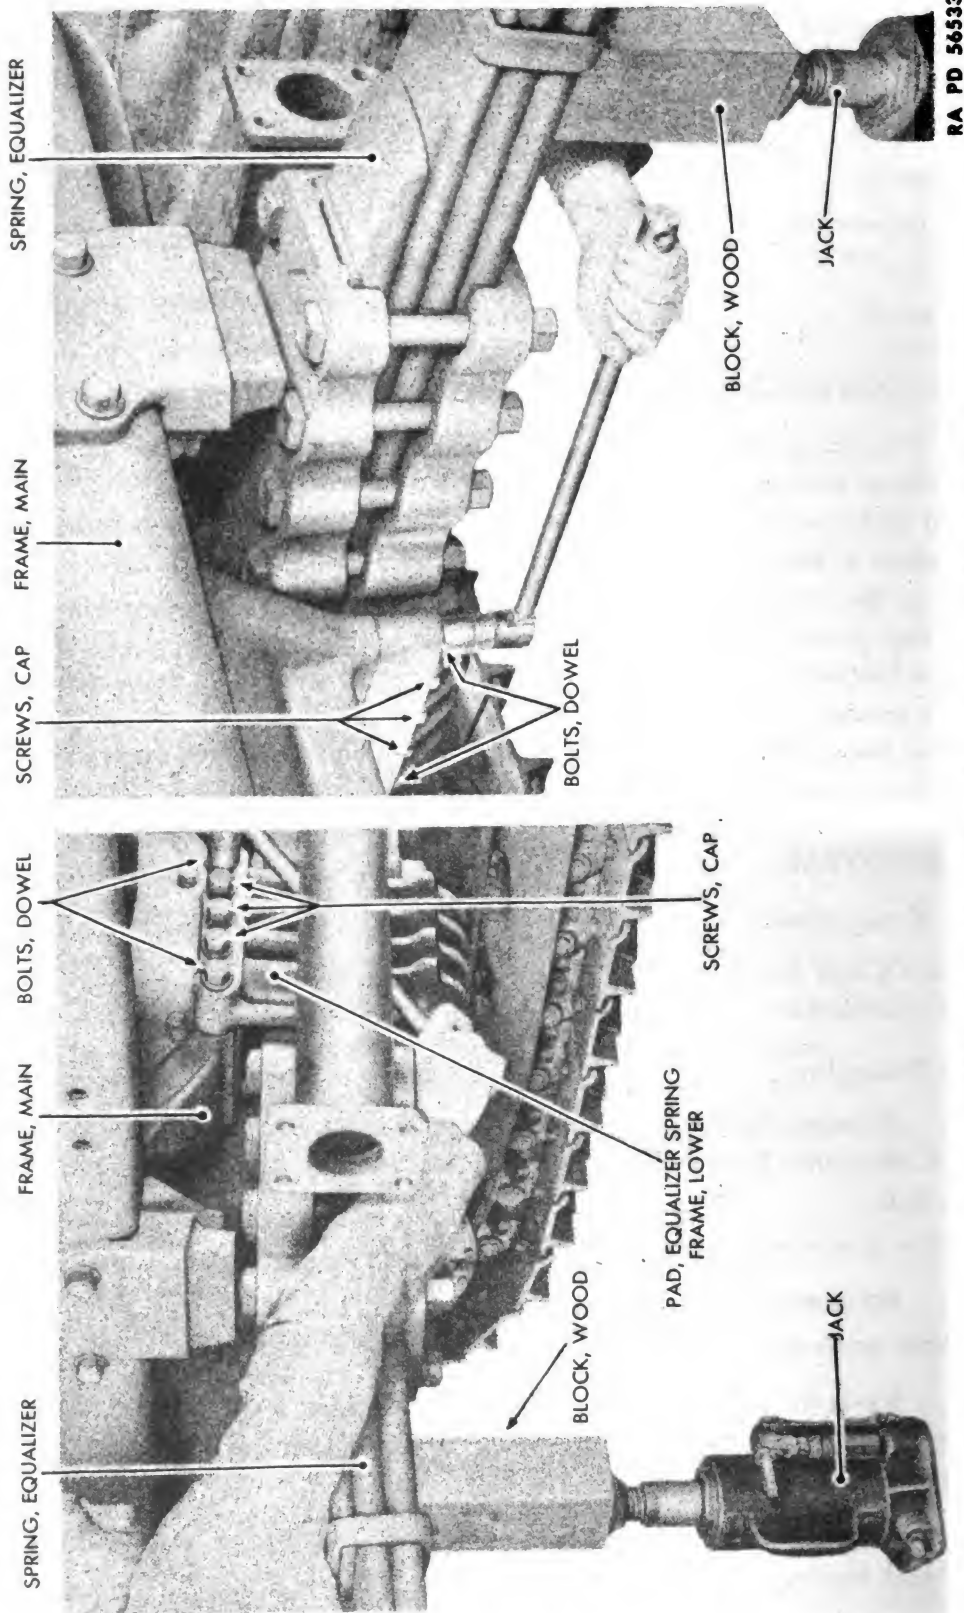

Figure 133 — Lower Equalizer Spring Frame Pad Removal
(3) REMOVE LOWER EQUALIZER SPRING FRAME PAD (fig. 133).